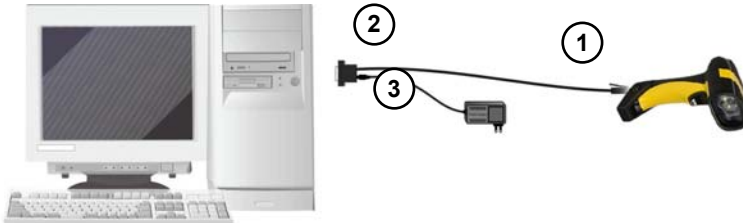

Figure 3 - RS-232 Connection
1. Make all system connections as shown in Figure 3: